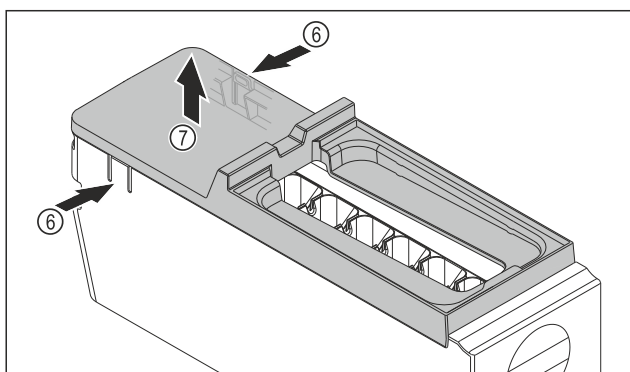

Fig. 75
- Removing the EasyTwist-Ice body cover: Push the tabs Fig. 75 (6) on both sides of the EasyTwist-Ice body with one hand.
- Use the other hand to remove the cover Fig. 75 (7) upwards.